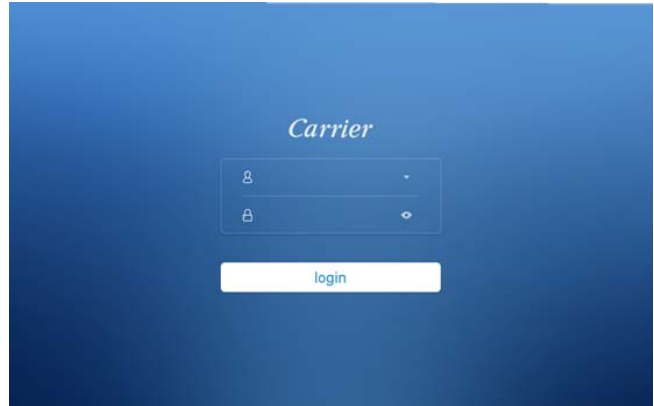

Fig. 11 — Login Screen
**Login** — Log in from the unit's home screen with user name "superAdmin." The default password is 66668888. See Figure 11.